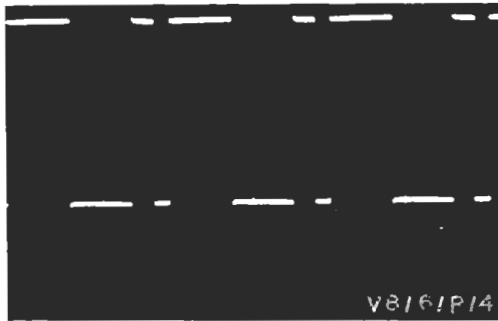

Fig. 6.2. Centre Portion of Fig. 6.1 Expanded
3. Adjust variable attenuator RV3 until the top of the lower waveform is almost coincident with the bottom of the upper waveform and, as the point of coincidence is approached, increase the gain of the oscilloscope to give an amplified display of the area where the waveforms meet. See Figs. 6.2. to 6.4.